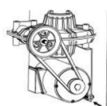

Fig 21
- Remove the left side cover by unscrewing the screws; adjust the two screws located on the motor bracket, maintaining an adequate distance between the motor bracket and the motor base; tighten the screws to tension the belt. (Fig. 21)